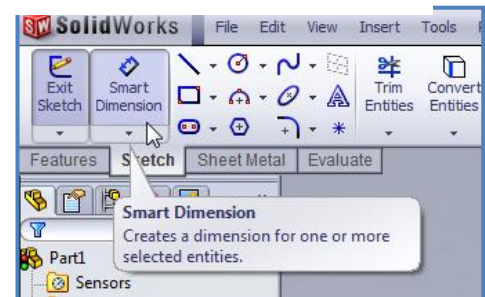

Figure 7
- Choose "Smart Dimension" from the "Sketch" toolbar (Figure 7).